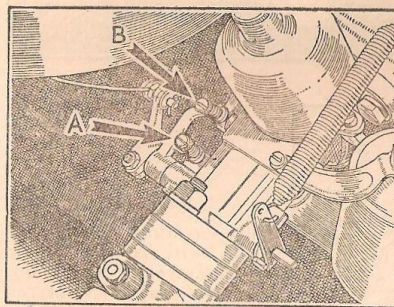

Fig. 37
After the slow-running has been dealt with check that the 'fast idle' adjustment screw (B), which impacts on a cam, is just clear of the impact face by about 1/64 in. (·40 mm.) See Fig. 37.